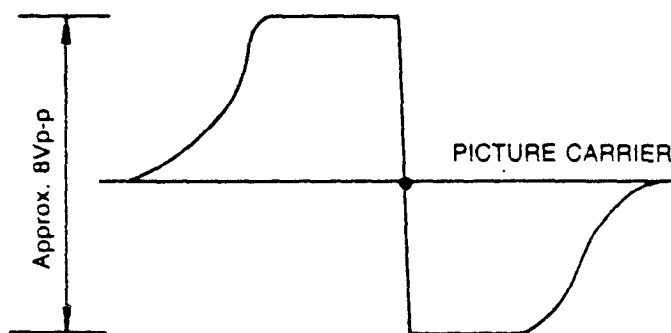

Figure 11 AFT Alignment Waveform.
3. Adjust L105 so that the waveform should be as shown in figure 11.